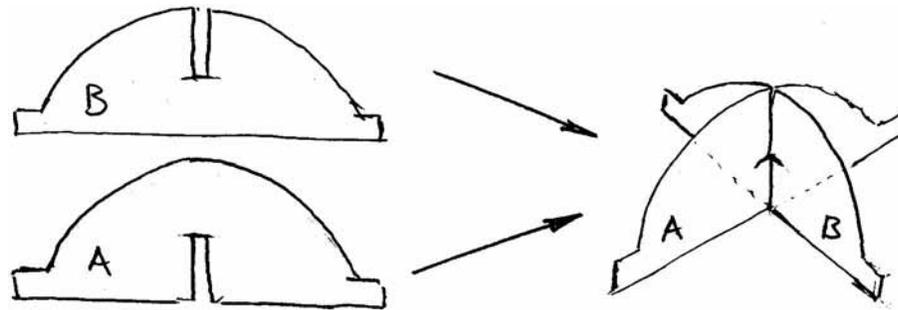

Figure 3: Both parts of the plate-wood model for the cooker assembly
The positions where to place the rings are marked by little black triangles. A gap with the same width as the thickness of the plate is cut out along the parabolas axis from the bottom to the mid at one piece and from the top to the middle at the second piece so that the two pieces fit together in a stable position as shown above without glue (see construction manual section 2.2.2, Figure 3). The model can be taken apart again for storage without effort.
7. Cut out a strip having the width of the plate-wood along the x -axis from outside in upto the mark for the focal point, for the one piece beginning from the straight base line and for the other piece from the parabolic side to the focal point. Now the two pieces are different as shown on figure 3.